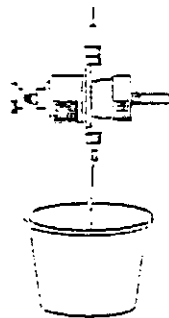

FIGURE 7
5. To purge air from the supply line, place a disposable container under the needle (refer to figure 7). Activate Valve with 60 psi. min. air pressure from air source or optional DISPENSER, dispense adhesive for 15 to 20 seconds or until air is purged from the line. Deactivate Valve (release air pressure). If Valve does not instantly shut off flow, air is not completely purged from the line.
6. It may be necessary to fine tune the flow control or dot size desired. Adjustment of the Knob (5) controls the travel of the SHUT-OFF Piston (2) by limiting its reverse movement. The SHUT-OFF Piston is moved by the Push Rods of the Air Piston (9). The travel of the SHUT-OFF Piston (2) determines the amount of opening for the Pump Tube (7), when coupled with a * time control, determines the shot size. (* refer to Section 4.3 Note 3). With repeated use, a closely controlled application can be achieved by adjusting the following:
- C. Stroke adjustment on the SHUT-OFF Piston Knob (5).